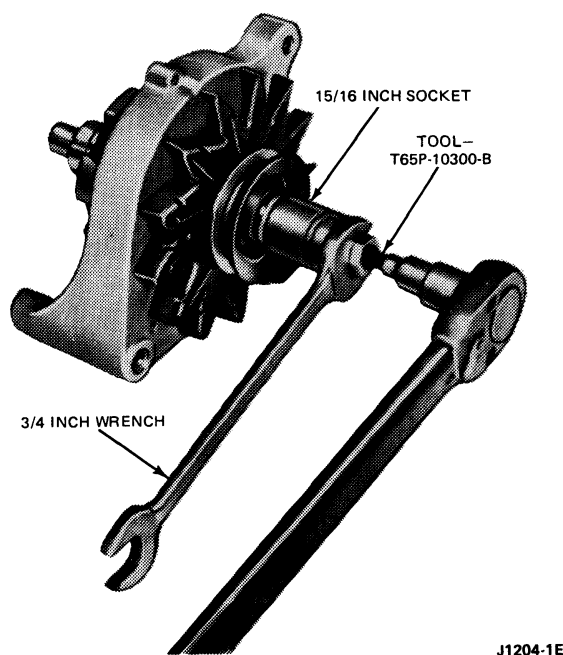

FIG. 7 Pulley Removal
9. Remove the drive pulley nut with the tool shown in Fig. 7; then, pull the lock washer, pulley, fan, fan spacer, rotor and rotor stop from the rotor shaft.
5. Position the front housing, fan spacer, fan, pulley and lock washer on the rotor shaft and install the retaining nut. Tighten the retaining nut with the tool shown in Fig. 7 to the specified torque (Specifications Section in this Part).